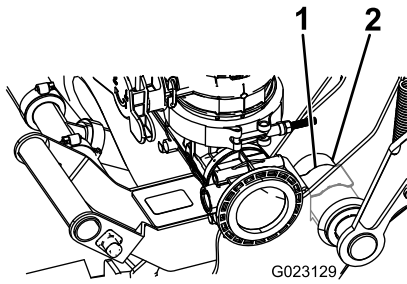

Figure 23
- Push until the spring clip snaps over the pivot tube as shown in Figure 23.